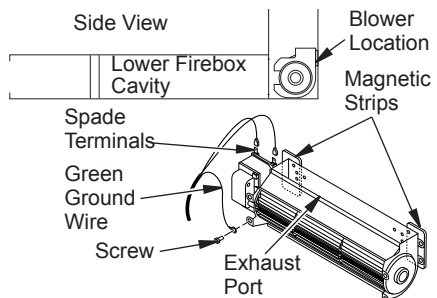

Figure 26 - Blower Model BK
1. Attach the power cord to the blower motor by firmly pushing the two female terminals at the end of the power cord onto the two spade terminals on the blower motor (see Figure 26).
2. Attach green ground wire from power cord to blower housing using screw provided (see Figure 26). Tighten screws securely.
3. Place the blower against the lower rear wall of the firebox outer wrapper with the exhaust port directed upward. The blower will fit inside the back opening and be held in position against the back wall by the magnets (see Figure 26, page 17).